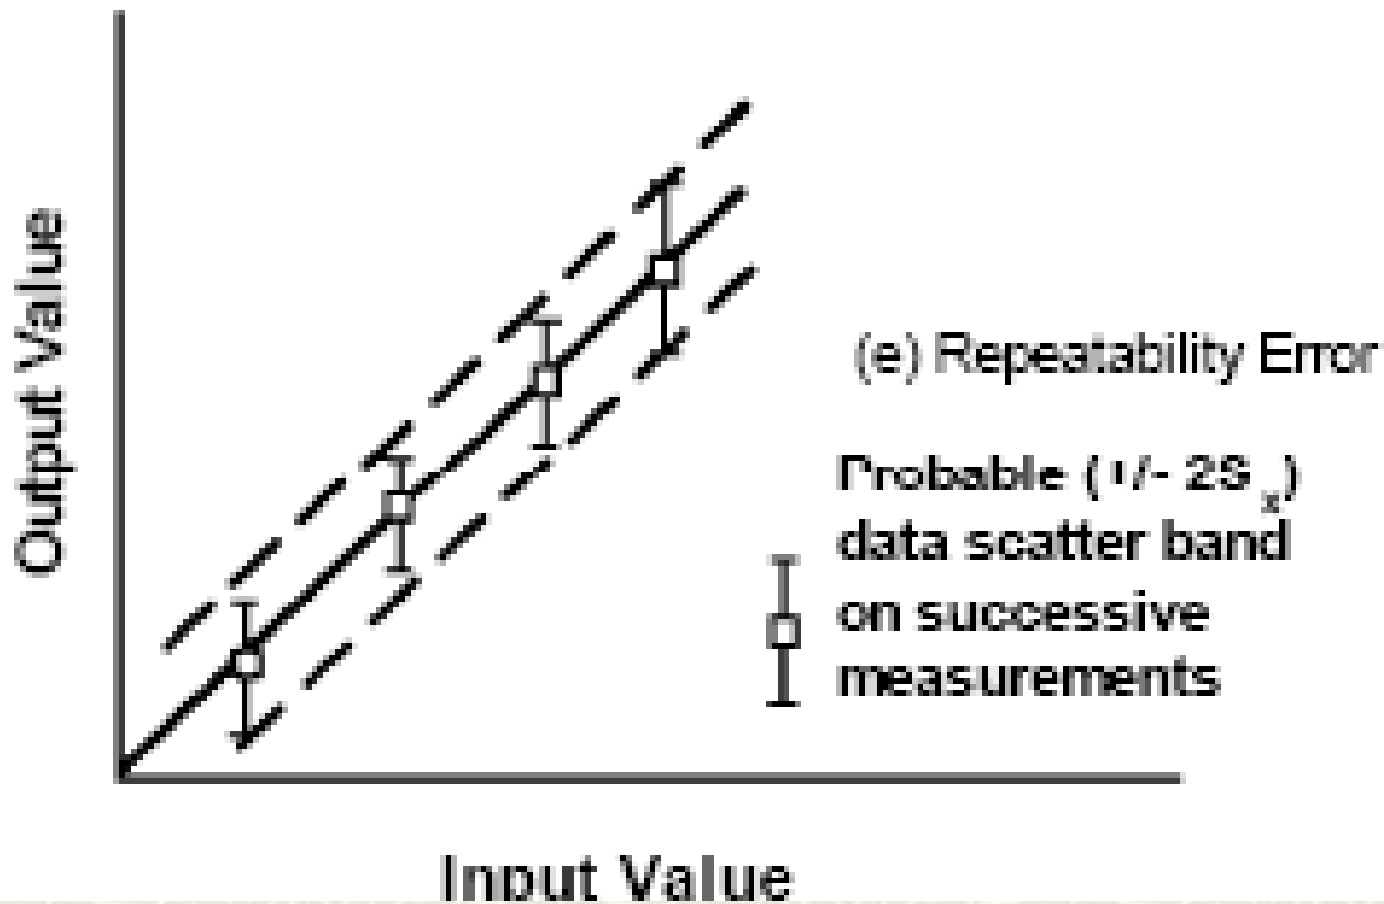

Figure 2.6
- # Repeatability, as shown in Figure 2.6, is based on a statistical measure called the standard deviation, S_X , a measure of the variation in the output for a given input.